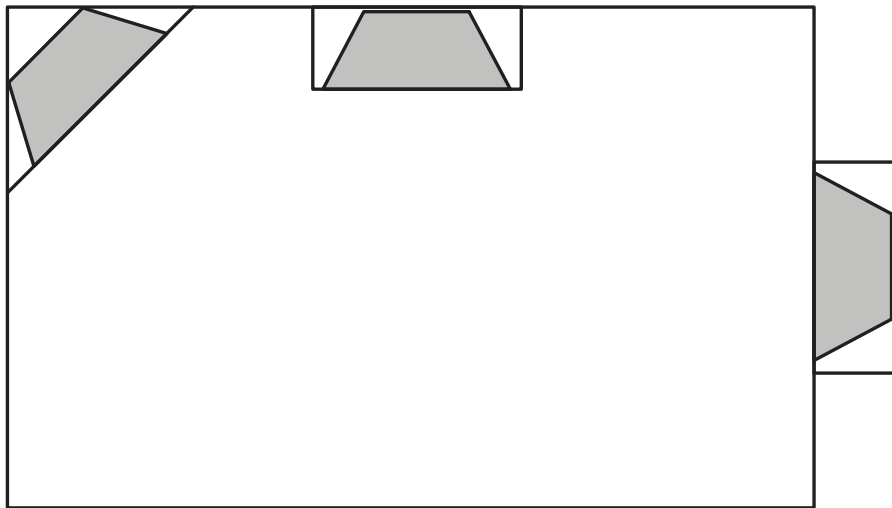

Figure 2 - Location of Firebox
- Minimize modifications to existing construction. Refer to Figure 2 below for location suggestions.